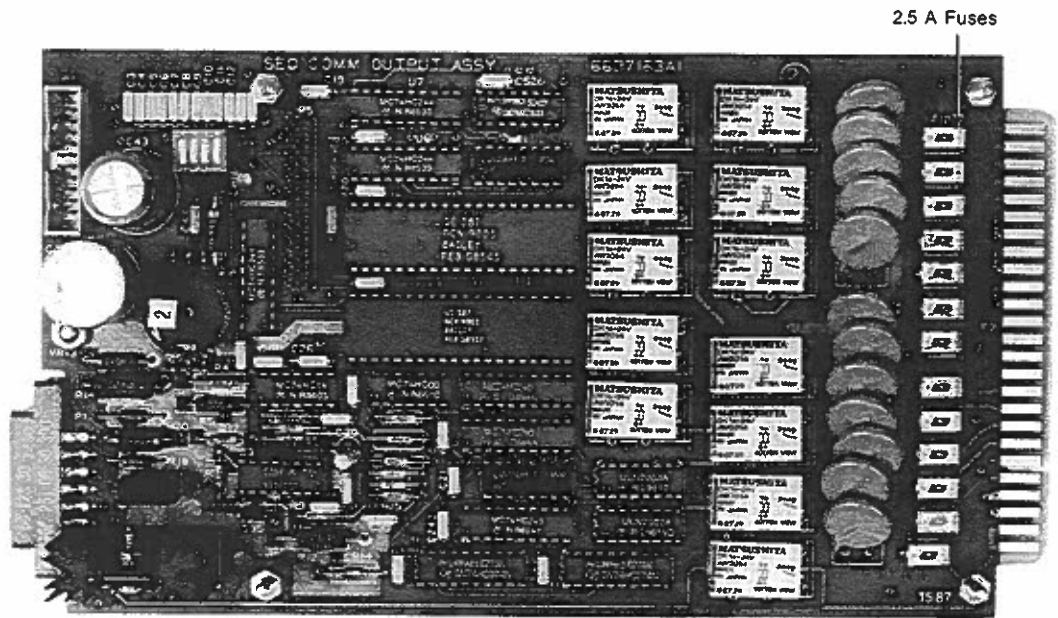

Figure 7-3. Replacing Output Board Fuses
5. If replacing the output board fuses, remove the four screws securing the input board to the output board. Refer to Figure 7-3 for location of the fuses.